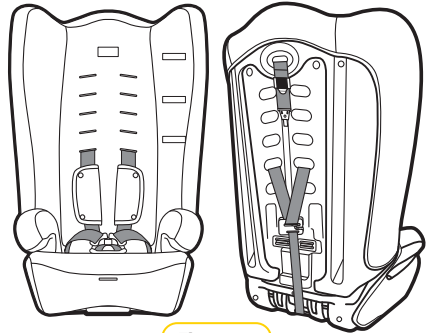

Figure 1
- Step 4:** Feed the lap end of the harness and the three bar slide through the thigh slots (see Figure 1 & 2).